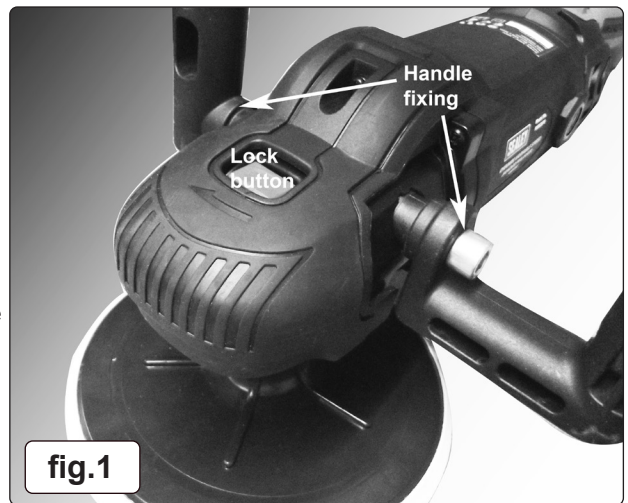

fig.1
- 4.1. Attach the 'D' handle (fig.1). Note: there is a mounting hole on either side to suit the application and/or operator.
- 4.2. Fit the backing pad by screwing it onto the spindle, locking the spindle by use of the lock button (fig.1)